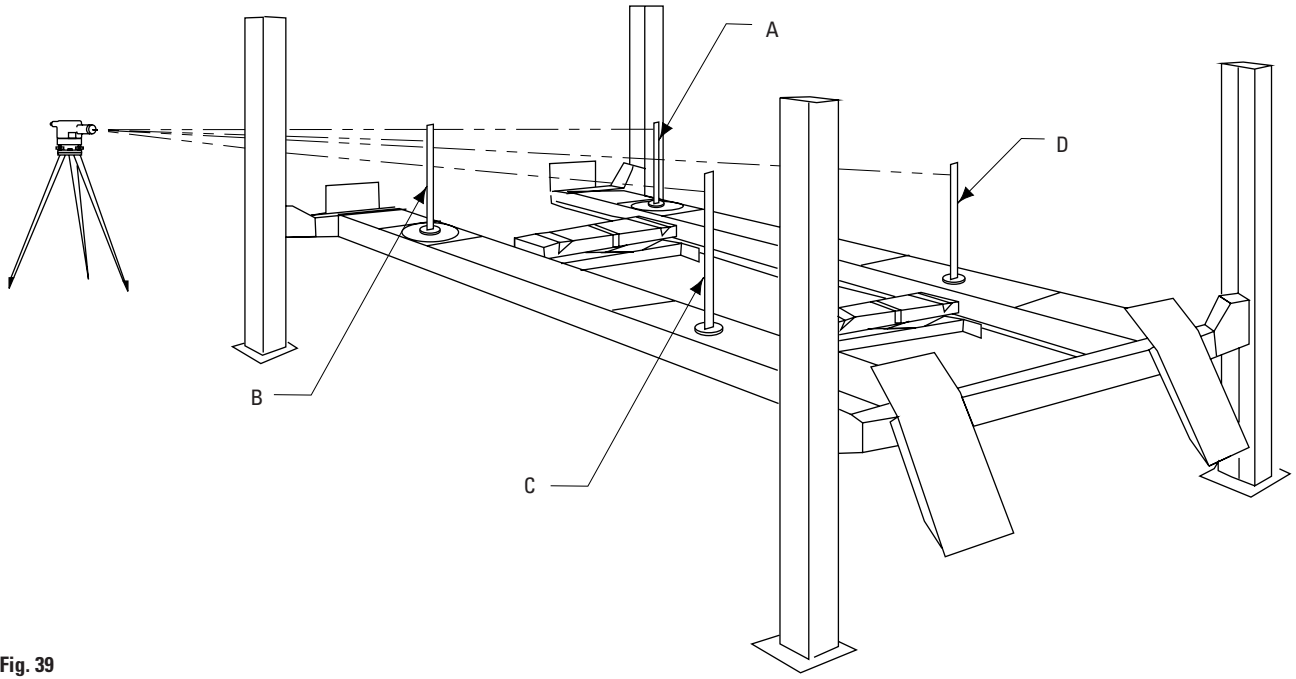
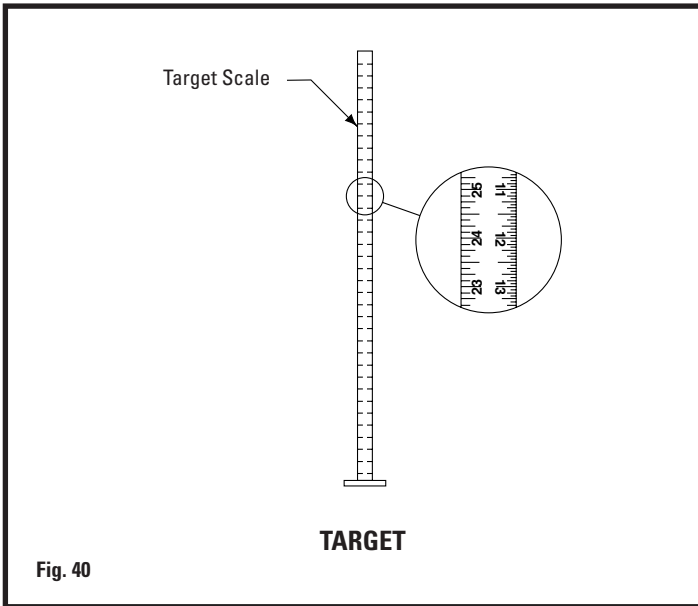

Fig. 39
Fig. 40
- D. Beginning with "A" position, Fig. 39, sight the Level to the target and mark the number or the graduation on the inch scale of the target that aligns to the crosshairs of the Level, Fig. 40.
gauge at point "B", Fig. 39.
- G. Adjust the adjustment nut on the locking latch plate adjustment stud at the top of the column at "B", Fig. 39, by loosening the jam nut and turning adjustment nut until the crosshairs of Level align to reference mark on the target scale.
- I. Always recheck the level of the runways to be sure all four locking latch plates are adjusted correctly. Start at point "A" and recheck level at points "B", "C", and "D", Fig. 39. Readjust, if needed. The runways are now level at all four points.